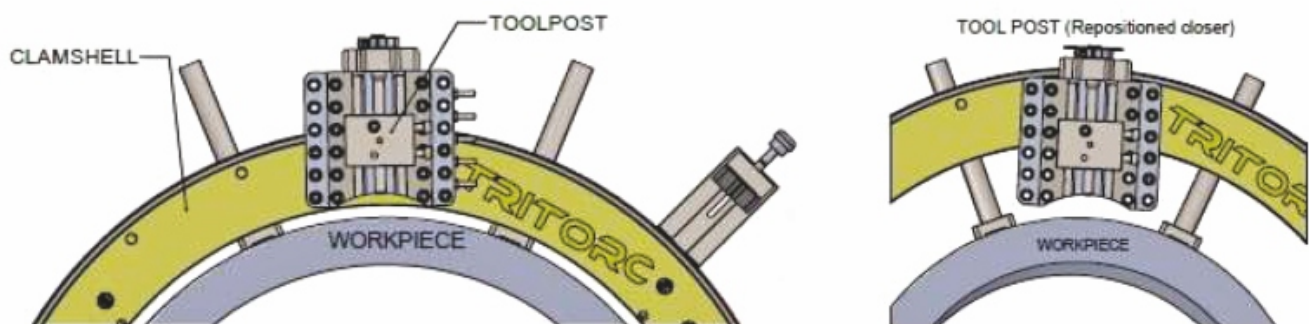

Fig 6. Tool Post Setup
5. Make sure the Slide Assemblies are positioned so they clear the work piece but are as close to the OD as possible (see Figure 6 below). The slides have four mounting positions and can be changed by removing M8 screw which secures the tool post on the rotating ring.